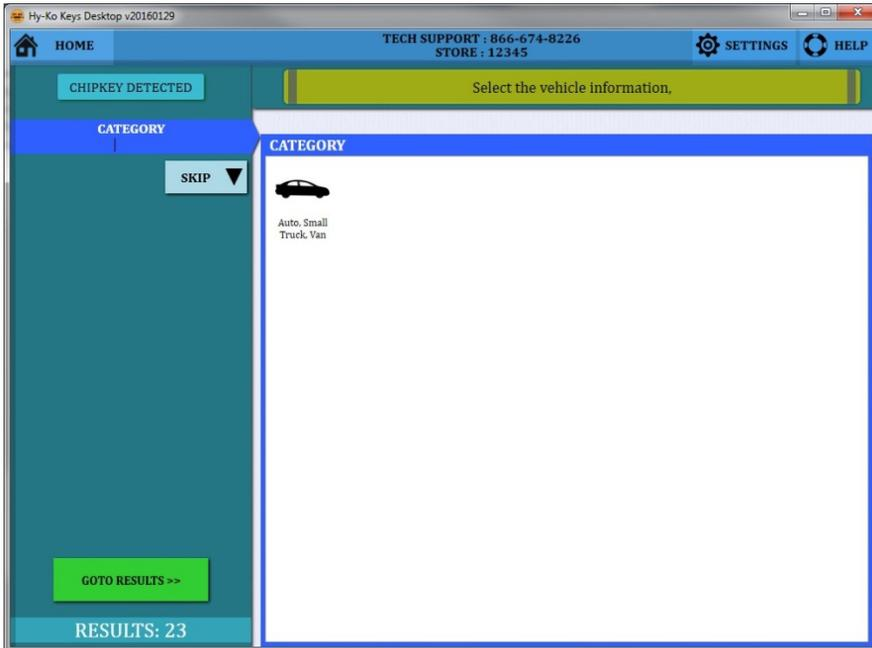

fig. 67
- Choose 'Auto, Small Truck, Van' for the category (see fig. 67).